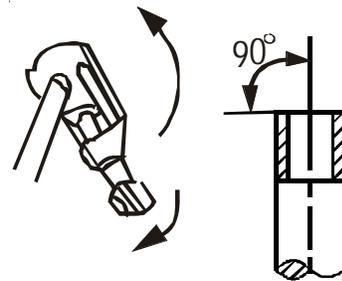

Figure 20A
1. Cut the pipe with a pipe cutter. See Figure 20A for correct alignment.